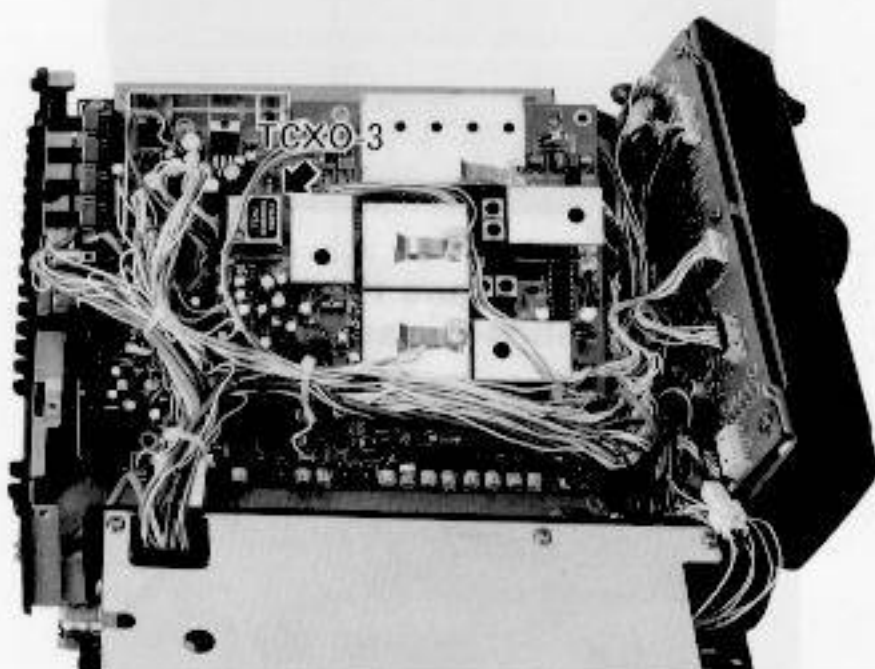

Figure 9: TCXO-3 Orientation
- ☐ Straighten the leads on the TCXO-3 module, if necessary. Then position it so that the trimmer hole is oriented as shown in Figure 9 (the label should be upside-down when viewed from the rear), and push the module leads through the board. Hold the module snug against the board while soldering it in place on the other side. Cut any excess lead length.